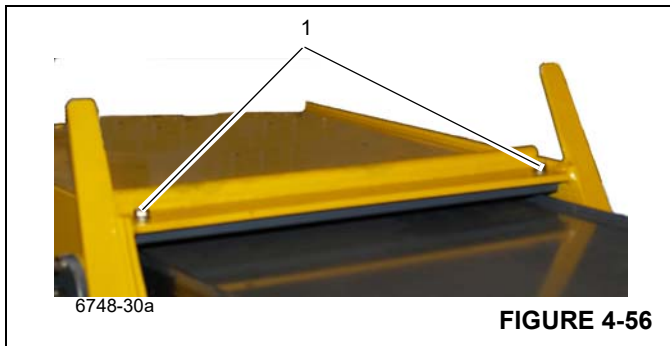

FIGURE 4-56
18. Install the kickback plate and hardware (1), (Figure 4-56) on the inside top of outer mid section.